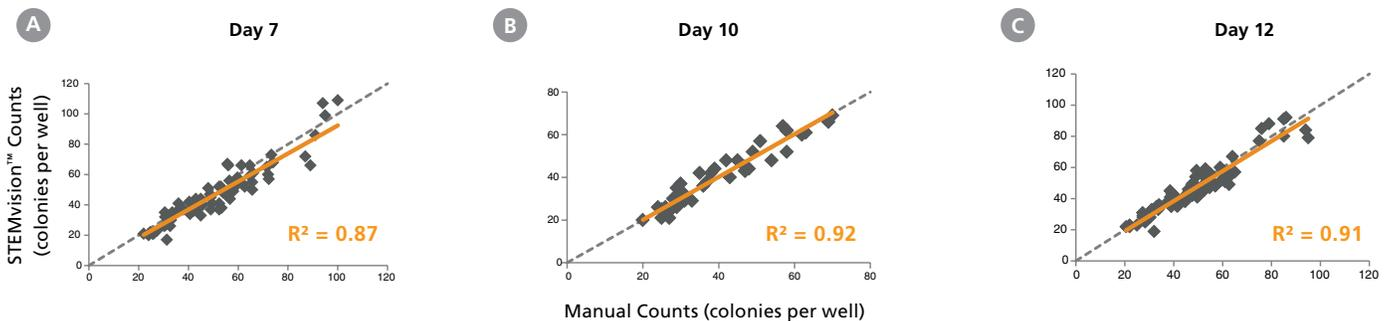

Figure 4. STEMvision™ Automated Counting is Highly Correlated to Manual Counting of Myeloid Colonies in Mouse BM CFU Assays
- For assays using myeloid-specific MethoCult™ GF M3534, the Mouse Myeloid CFU Analysis Package (Catalog #22009) provides a total count of all myeloid colonies (Figure 4).